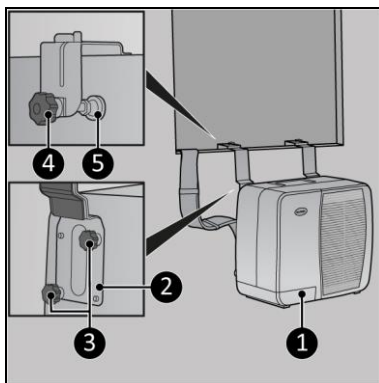

Figure 6
1. Attach the large brackets (Figure 6, pos. 2) to the outdoor unit (Figure 6, pos.1) by tightening two screw caps per bracket (Figure 6, pos. 3).
2. Hang the outdoor unit (Figure 6, pos. 1) from the desired window, make sure the indoor unit is securely placed on a table.
3. Tighten the adjustment bolt (Figure 6, pos. 4) per bracket. Make sure the bumper (Figure 6, pos. 5) is placed vertical. If needed, use the removable block on thinner walls or window frames.